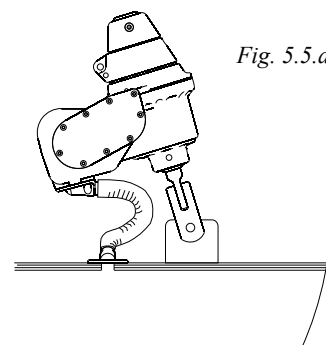

Fig. 5.5.a
The drive unit has a stainless steel collar ① from which both motor cables C3 appear. The collar is sealed with an O-ring and can be mounted in 8 different positions, dependant on the most suitable direction for the protective sleeve. (As delivered, it points straight forward). See fig. 5.5.b.